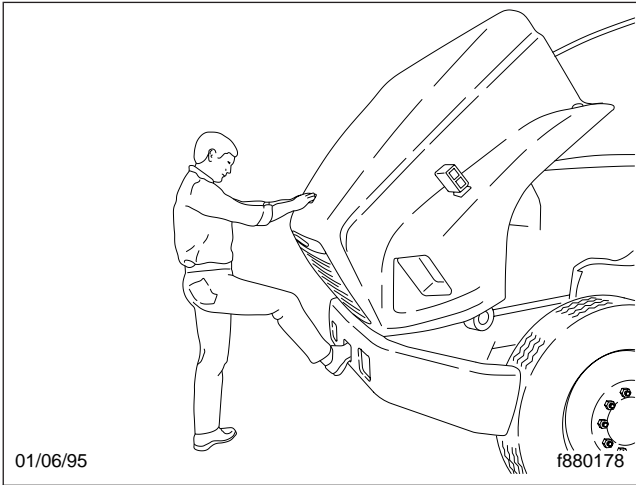

Fig. 2.31, Hood Tilting
3. Using the bumper step and grab handle, slowly tilt the hood until the stop cables support it. See Fig. 2.31.